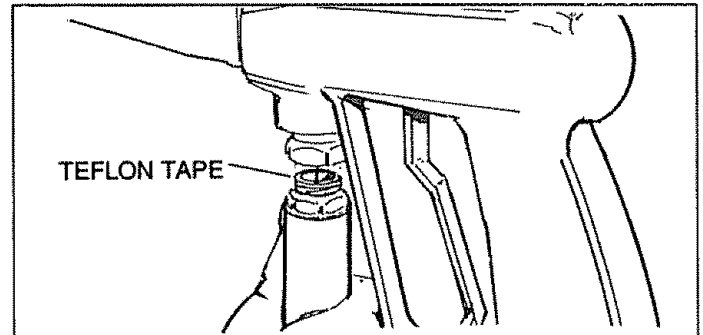

FIG. 6
- Attach fitting with teflon tape to gun and wand assembly (Fig. 6). You may want to spin gun or spin hose to secure connection. Tighten hose using 11/16" and 7/8" wrenches.